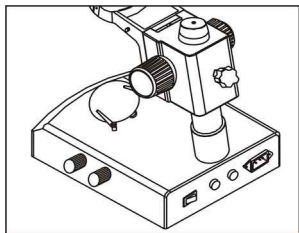

Fig.2
- 2) The suitable position of the tightness can make the adjustment more comfortable and prevent the focusing bracket from slipping down by its weight during the observation. (Fig. 2)